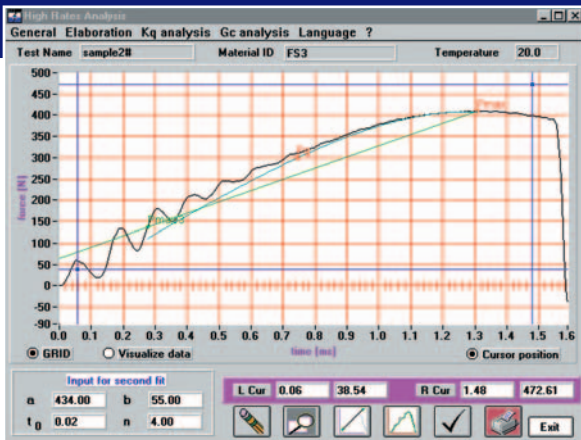

Fig. 5 WLEFMHR page
- Linear regression of chosen part of graph Fig. 5